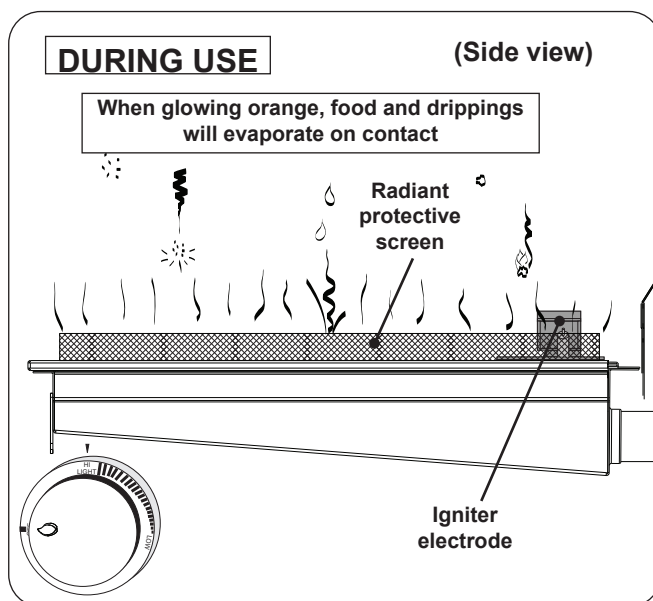

Fig. 36-3 Infrared burner - DURING USE
- **DO NOT place food on the cooking grid until the infrared burner glows orange (Fig. 36-3).** Drippings are heated and evaporate instead of sticking to and impairing burner function.